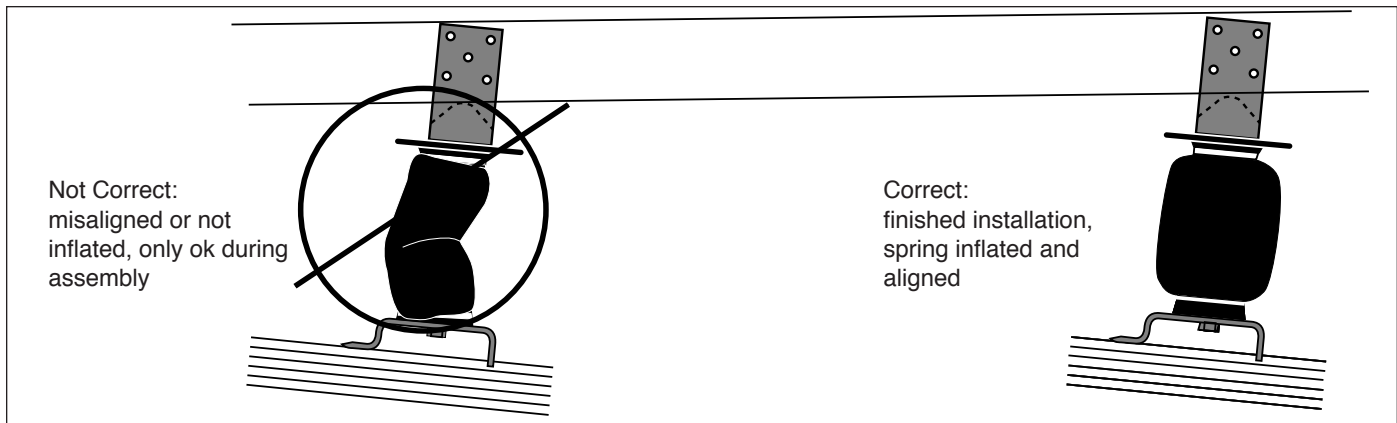

Figure 9
4. Should it become necessary to raise the vehicle by the frame, make sure the system is at minimum pressure (5 p.s.i.) to reduce the tension on suspension/brake components. Check to see that the air spring rolls back down over the bottom piston after the vehicle is lowered (Figure 9). If sleeve fails to roll back down over the piston, add air pressure until sleeve “pops” back over piston (do not exceed 100 p.s.i.).